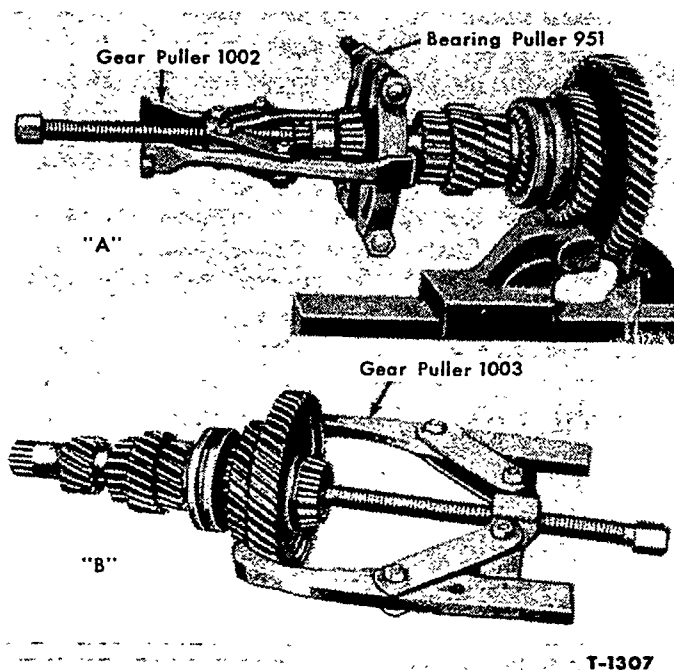

Figure 9—Disassembling Countershaft
2. With Bearing Pulling Attachment 951 and Puller 1002, as shown in "A", Figure 9, pull the countershaft rear bearing and oil seal sleeve off the countershaft.
3. With Puller 1003, as shown in "B", Figure 9, pull the countershaft drive gear and front bearing off the countershaft.